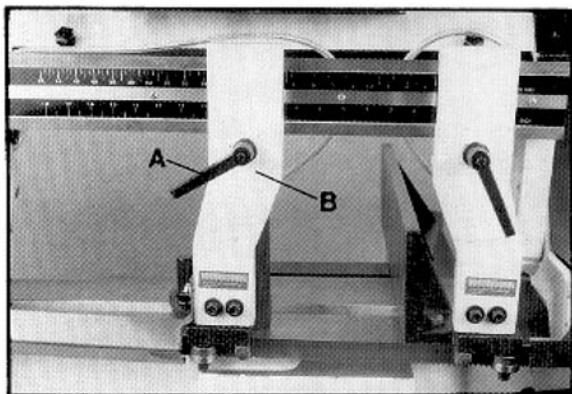

Figure 8
6. Loosen lock knob (A, Figure 8) and slide left blade guide arm (B, Figure 8) to the right as far as possible.